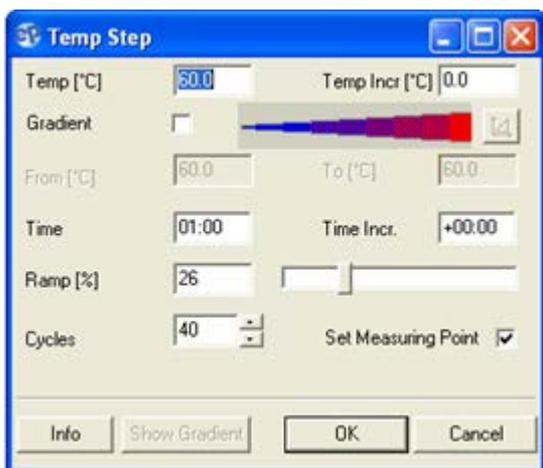

Figure 7. "Temp Step" parameters.
- Double-click on the  icon in segment 3. The "Temp Step" window will appear. Uncheck "Gradient" and change the "Ramp [%]" to 26\*\*. The final "Temp Step" parameters should appear as in Figure 7. Click "OK."